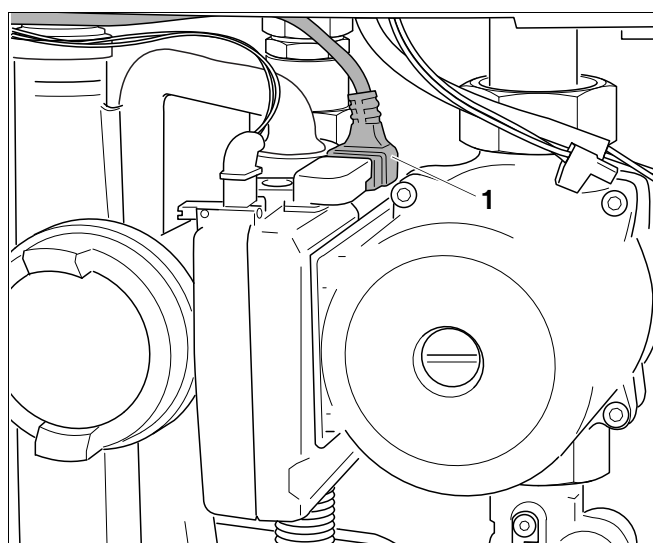

fig. 22 Connecting the pump
- Connect the mains cable connector (fig. 22, item 1) to the pump.